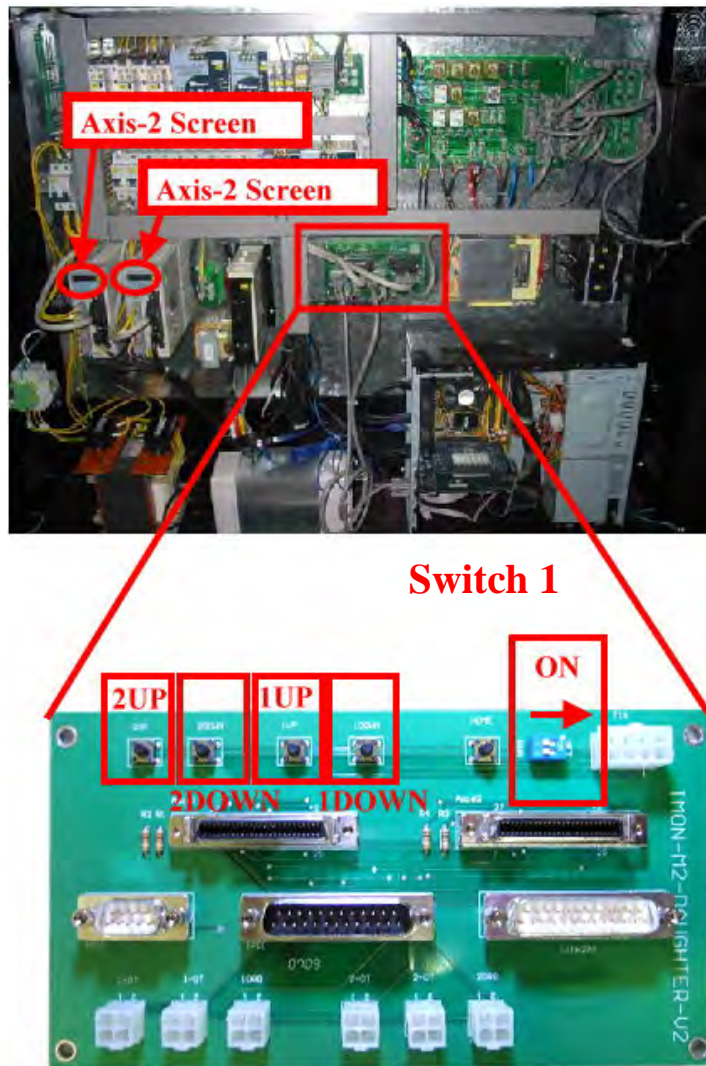

Fig. 6-9 IMON-M2-DAUGHTER-V2 Card
**Step 3** : Adjust the switch 1 to be ON as shown in Fig. 6-9.
ALE15	Press the button "1 DOWN" (Fig. 6-9) about 5 seconds.
ALE15	Press the button "2 DOWN" (Fig. 6-9) about 5 seconds.
**Step 8** : Adjust the switch 1 to be OFF as shown in Fig. 6-9.